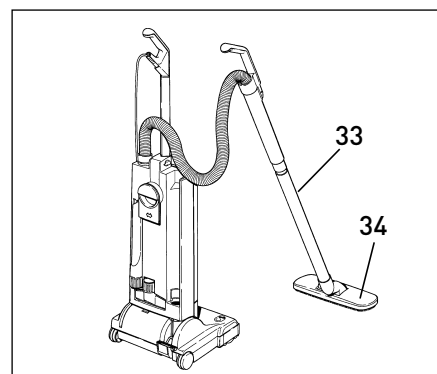

Figure 7
To vacuum walls, under beds, or higher-reach areas, etc., the SEBO AUTOMATIC X can be fitted with an optional straight tube (33) and the optional wall and floor brush (34). The machine will then perform as a canister vacuum (as shown in figure 7).